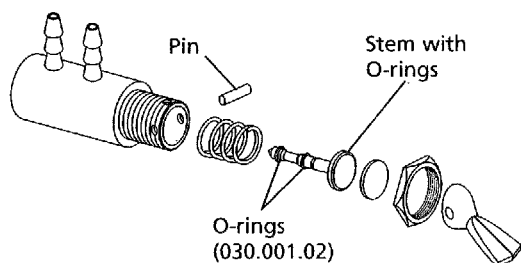

Figure 57. Flush Valve Assembly (A-dec part no. 33.0009.01)
3. Remove the pin, then remove the stem (see Figure 57).